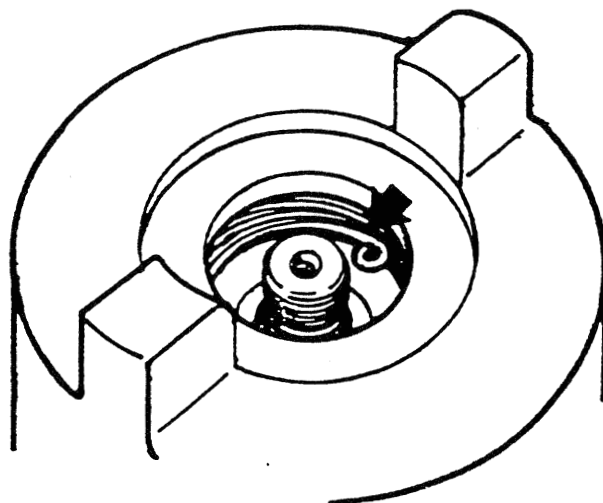

Figure 401. Spring Engaged with Cam
- A. Using heavy gloves or a cloth, grasp coupling body (9) firmly to prevent the internal spring from unwinding suddenly. Pull outward on coupling body only enough to release it from cam assembly (11). Keep coupling body close against cam and allow body to turn as spring (10) unwinds. After one or two turns, spring coils will wedge against projections on body, restraining spring from further unwinding.
- B. Look into hole in body and note location of inner eye of spring where it engages with mating recess in cam hub. See Figure 401. Insert a screwdriver under spring end and pry spring eye out of recess. Remove body and spring together. Uncoil spring from body and work spring eye from body recess to disengage spring. Spring (10) must be discarded.